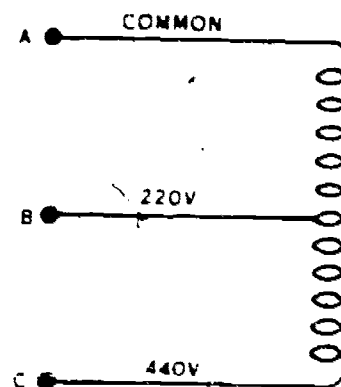

Figure 21
9. The holding coil of the motor starter (figure 21) is to operate at the same voltage (440 volts) as the motor. Which terminals should be used?